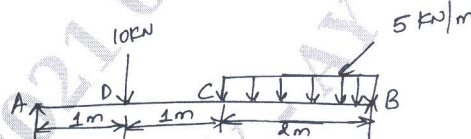

Fig.Q8(b)
b. A beam AB of 4m span is simply supported at the ends and is loaded as shown in Fig.Q8(b). Determine : i) Deflection at C ii) Maximum deflection and iii) Slope at end A.